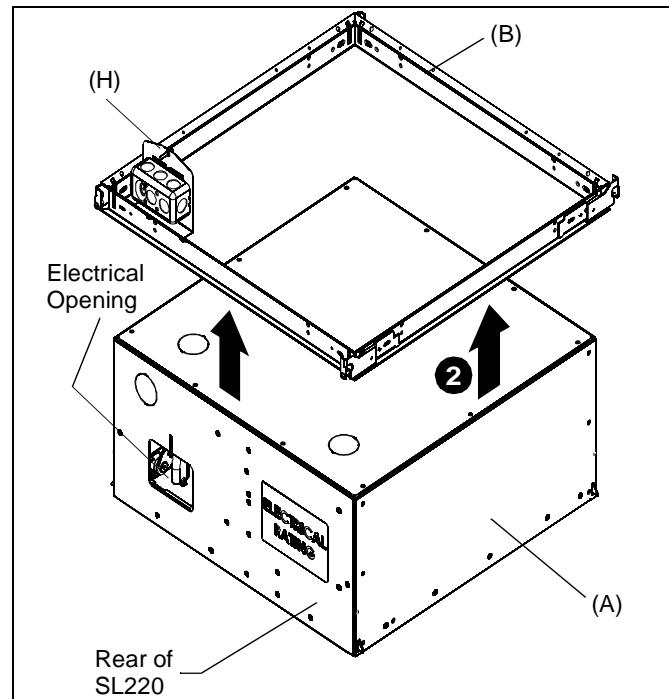
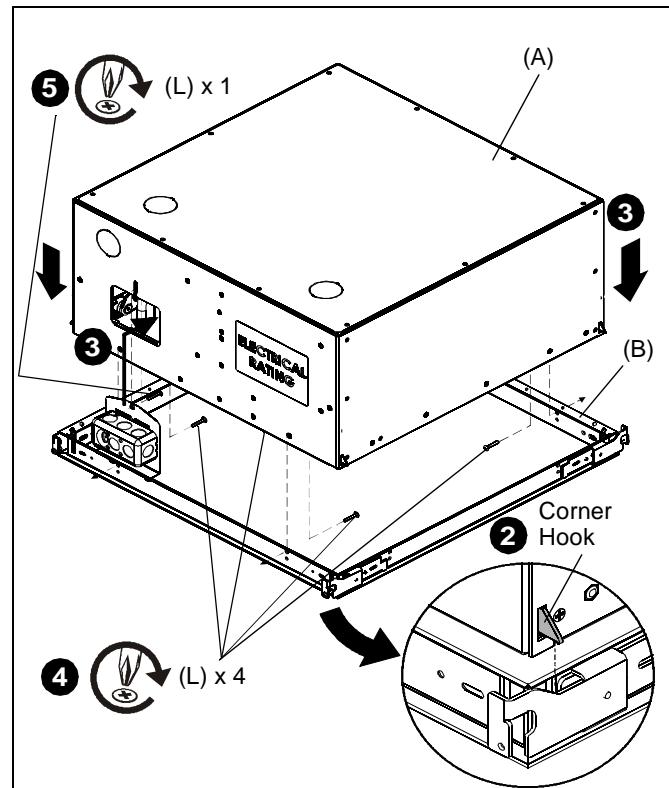

Figure 16
Figure 17
1. Orient SL220 so that the rear of the SL220 (with the electrical opening) lines up with the outlet box attachment plate (H) on the SL220 frame. (See Figure 16)
2. Lift SL220 (A) into place through the SL220 frame (B). (See Figure 16) Ensure that there are four audible clicks--each corner hook "clicking" into place onto the frame. (See Figure 17)
3. Lower onto SL220 frame, carefully lining up outlet box attached to SL220 frame, with opening at rear of SL220. (See Figure 17)
4. Secure the SL220 (A) to the SL220 frame (B) using four 8-32 x 1" Phillips head screws (L), two in the front and two in the back of the SL220. (See Figure 17)
5. Secure the outlet box attachment plate (H) to the SL220 using one 8-32 x 1" Phillips head screw (L). (See Figure 17)